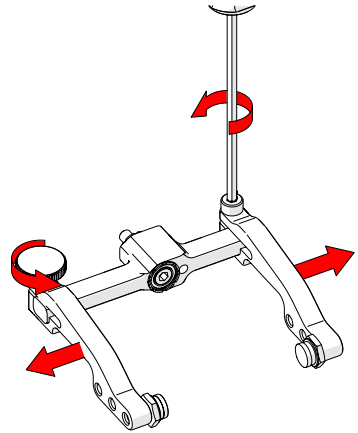

Fig. 49 - Remove probe holder arms
3. Loosen the probe holder arm adjustment knob and the arm clamp screw. Slide the probe holder arms off the yoke (Fig. 49).